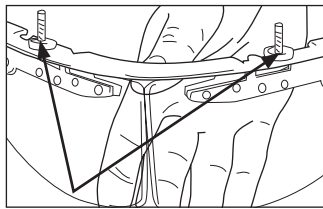

Figure 26
3. Insert the screws provided with your kit into the Bourke eyeshield as shown (Figure 26).